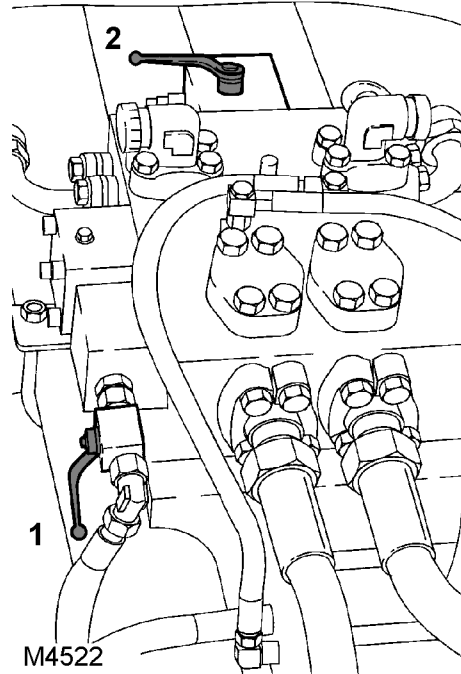
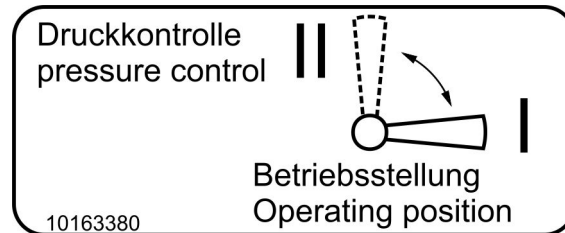

Fig. 240
Fig. 241
2. Move both ball valves (1+2) (**Fig. 240**) on the pump kit into the "pressure control" position (**Fig. 241**) so that the pistons come to a standstill.